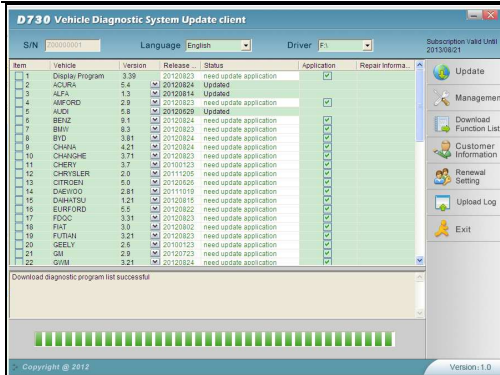

Fig 2-3 Program list screen
(4) After download is finished, all updates available will be displayed as shown in Fig 2-3.
(5) The update client will automatically identify new updates available for your D730.